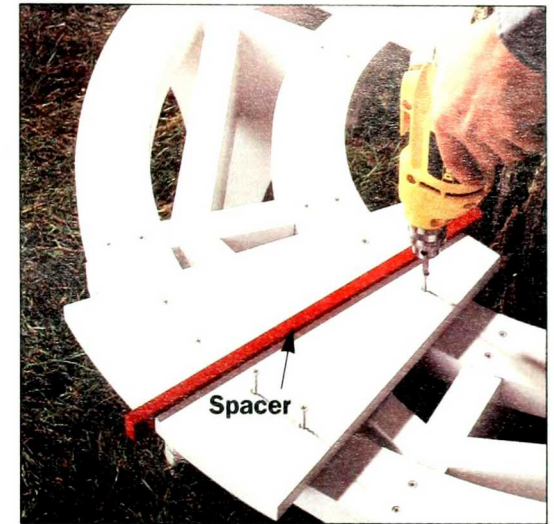

Figure 5: Screw the seat slats onto the base, spacing them evenly on each quarter section. A spacer helps maintain a consistent gap between slats.
- Screw on the seat slats. Begin by attaching two slats on each side of the joints between the quarter sections. The side of each slat should rest $\frac{1}{4}$ inch from the joint and the front should overhang the front supports by 2 inches. Space the remaining slats evenly in the gaps, then screw them down. It'll help to use a $\frac{1}{2}$ -inch spacer between the slats (Figure 5).